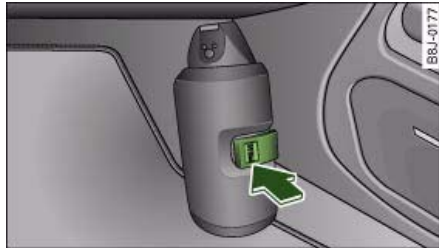

Fig. 236 Fire extinguisher in footwell on front passenger's side
- Unfasten the retaining strap by pressing on the tab marked "PRESS" ⇒ fig. 236 -arrow-.